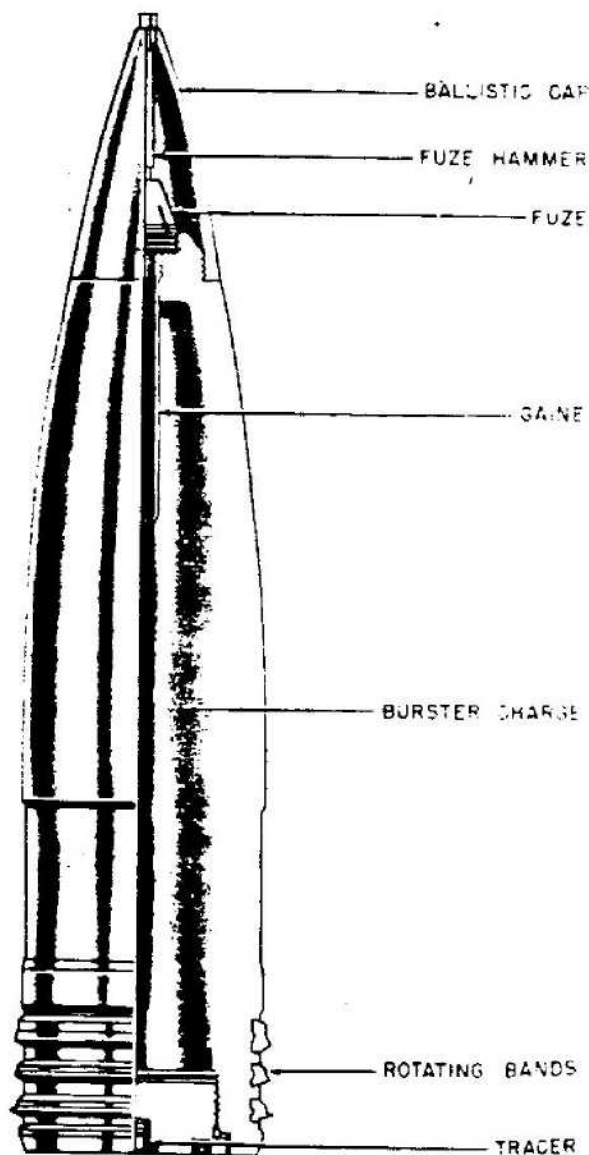

Figure 530—H. E. Projectile, 203-mm, 20.3-cm Sprgr. L/14 Kz. (Hb)
**GERMAN NOMENCLATURE:** 20.3-cm Sprgr. L/14. Kz. (Hb). (See fig. 530.)
**WEAPONS:** German Railroad Gun: 20-cm K. (E).